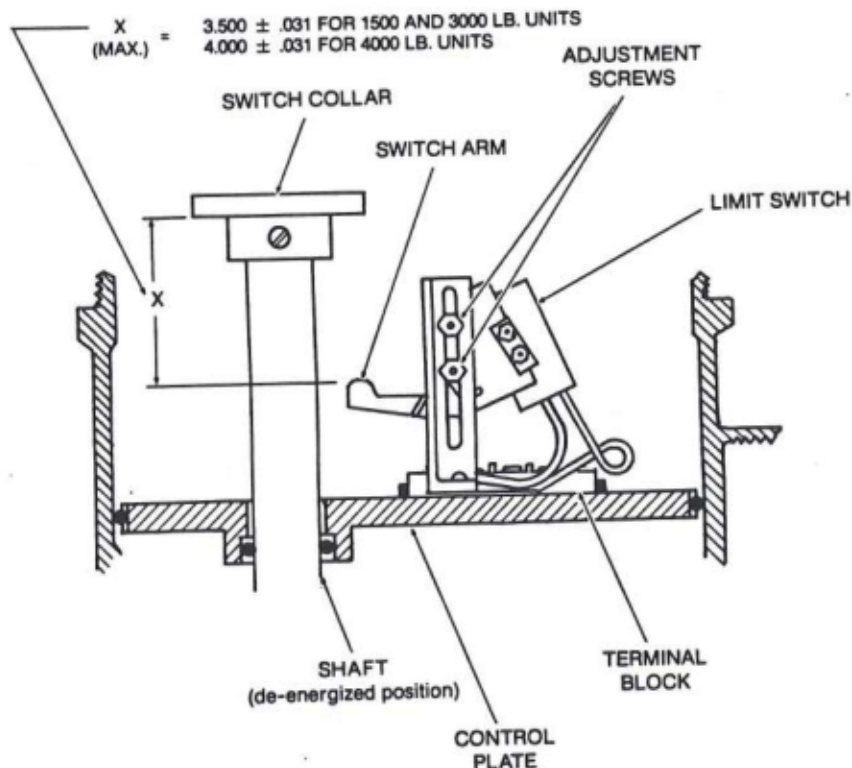

Figure 5-9. Limit Switch Adjustment
Refer to Figures 5-9 and 5-10 for reference to the Limit Switch Adjustment and Control Plate Assembly viewing.
- 1). With the Hydramotor shaft connected to the PCD and de-energized (fully retracted), depress the switch arm until the switch just clicks, and measure the distance between the top of the switch arm and the underside of the switch collar (dimension X, Figure 5-9). This distance should be the stroke required for the PCD.